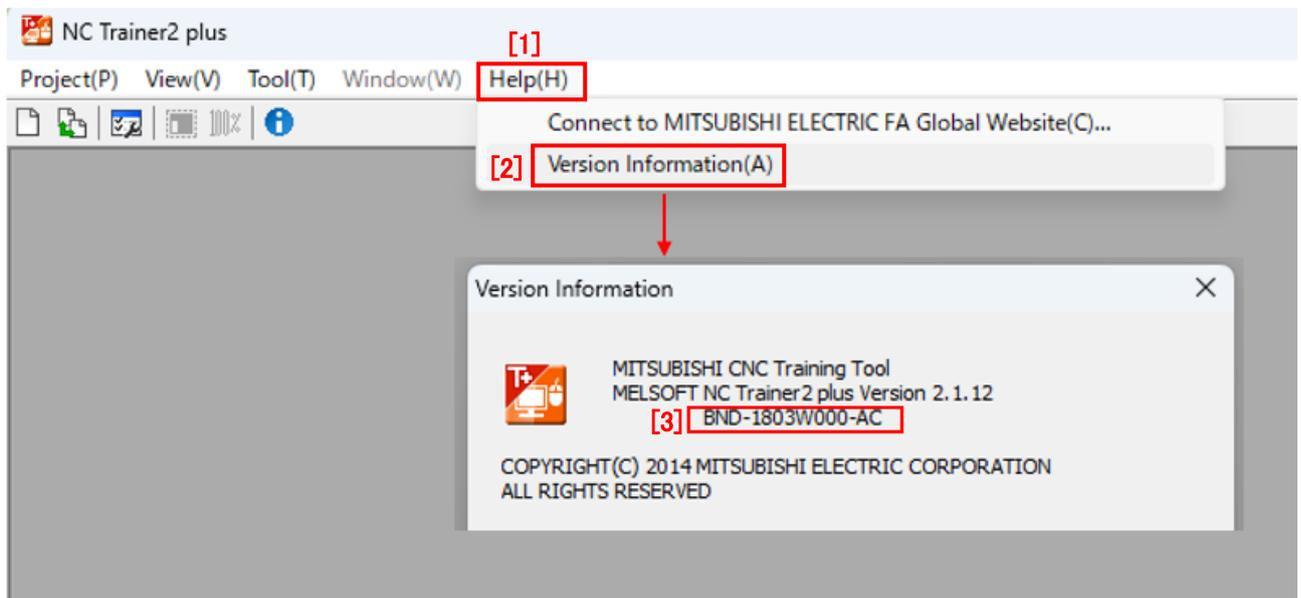

Figure 5. Version Information screen (NC Trainer2 and NC Trainer2 plus)
- 2) Click "Help" (see [1] in Figure 5) - "Version Information" (see [2] in Figure 5) in the menu bar to display the Version Information screen and check the “System Number” starting with BND (see [3] in Figure 5).